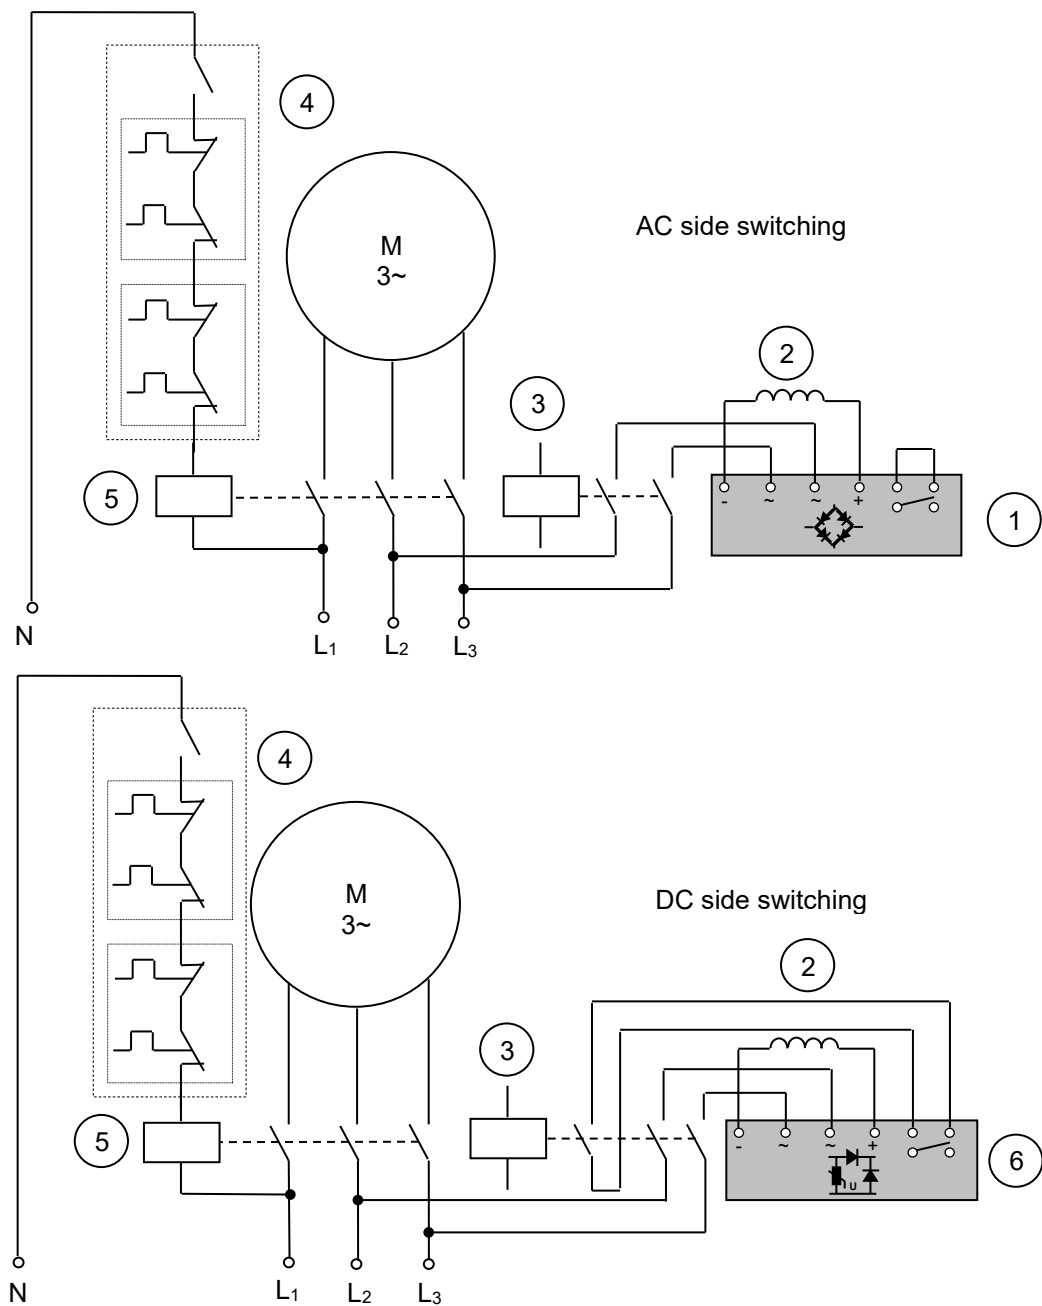

Fig. 13/1: Suggested wiring of brake and safety switches (circuit diagram)
3.3.2 Microswitch (13) and thermoswitch (11 & 12) connection
The four (2x2) thermoswitches (11 & 12) and the microswitch (13) provided to control the release status of the spring-applied single-disc brake are factory-connected in series. These safety switches (microswitch (13) and thermoswitches (11 & 12)) must be tied into the control circuit of the machine (e.g. motor) (see Fig. 13/1). This is necessary to ensure that the microswitch (13) prevents machine (e.g. motor) start-up before the brake has been released. The four (2x2) thermoswitches (11 & 12) connected in series with the microswitch (13) interrupt the control circuit of the machine (e.g. motor) as soon as the temperature measured at the individual measuring points of the thermoswitches (field coil (1.2) and flange (3)) exceeds the maximum permitted temperature. The cover (26) of the junction box (25) must be removed to allow the connecting cable of the safety switches (microswitch (13) and thermoswitches (11 & 12)) to be installed. The customer-specific connecting cable for the safety switches can be introduced into the junction box (25) of the spring-applied single-disc brake through the cable gland (30) (M20x1.5) provided (see Section 3.3). The cable strands must be connected to terminals 5 (TB1) and 6 (TB2) of the terminal block (19) (see Section 3.3). After completion of these steps, reinstall the cover (26) of the junction box (25).
The suggested brake wiring solution with microswitch (13) shown in Fig. 13/1 is based on the general recommendations for wiring electromagnetic components in electrical machinery (e.g. motors) without load torque impact. When the brake is used for applications during which a load torque is generated, the system user is responsible to ensure correct and safe wiring of the microswitch (13) and spring-applied single-disc brake.